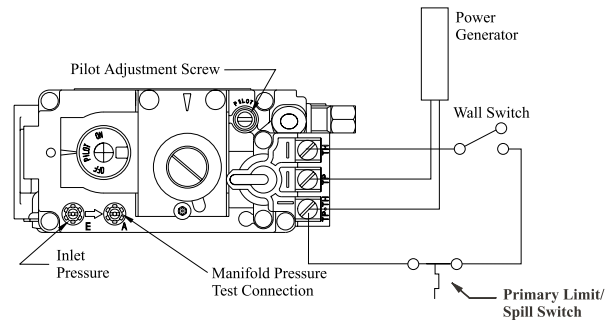

Figure 24a. *Sit 820* gas valve used on the EP28-2LB, EP28-4LB, and the EP28-F2 models.
- Have the fireplace installation inspected yearly, including a visual check of the vent system, the burner and the pilot flame. For your convenience a 1/8" manifold pressure tap is supplied on the gas valve for a test gauge connection. See Figure 24a, 24b, and 24c.
2. Locate Pilot Adjustment Screw. (See figures 24a, 24b, and 24c.)
Pilot won't ignite	Disconnect remote wires and try to light pilot. If pilot now works, remote connections are faulty. Check wiring diagram figure 24a/b/c .
Main burner will not light	<ol style="list-style-type: none"> 1. Check wiring (see figure 24a/b/c) 2. Check wall switch for proper connection.